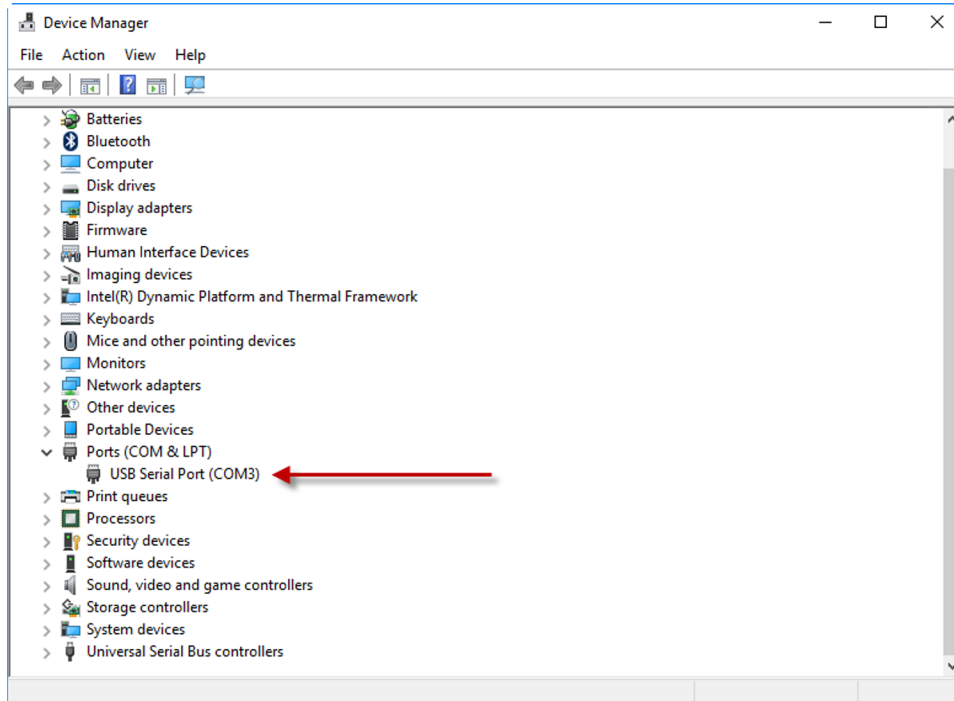

Figure 14. Determine COM Port
- Now determine which COM port to use. After plugging the FTDI cable into a USB port, open up Windows Device Manager. Find the USB serial port and note which COM port is used to connect to the FTDI. The example in Figure 14 shows this COM port to be COM3.